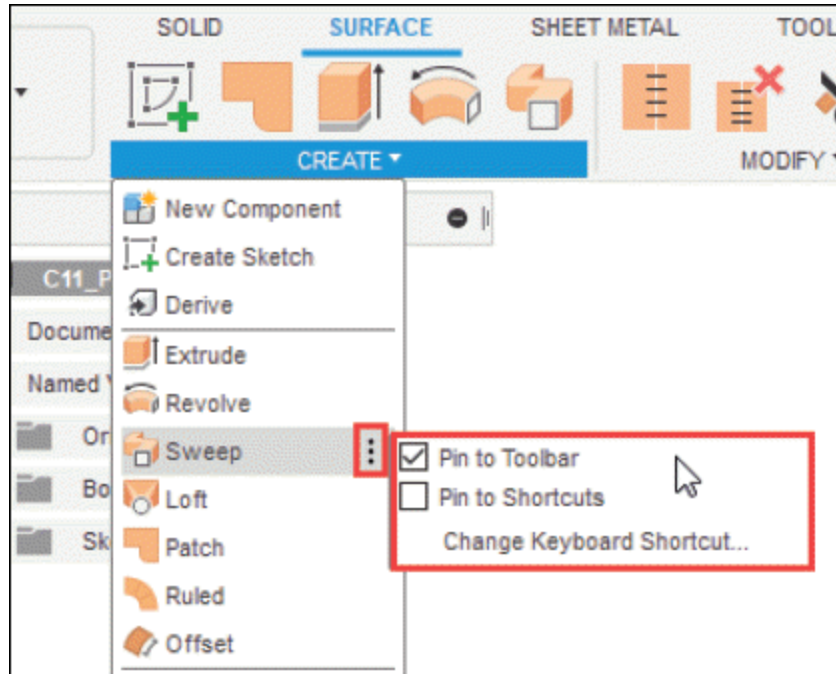
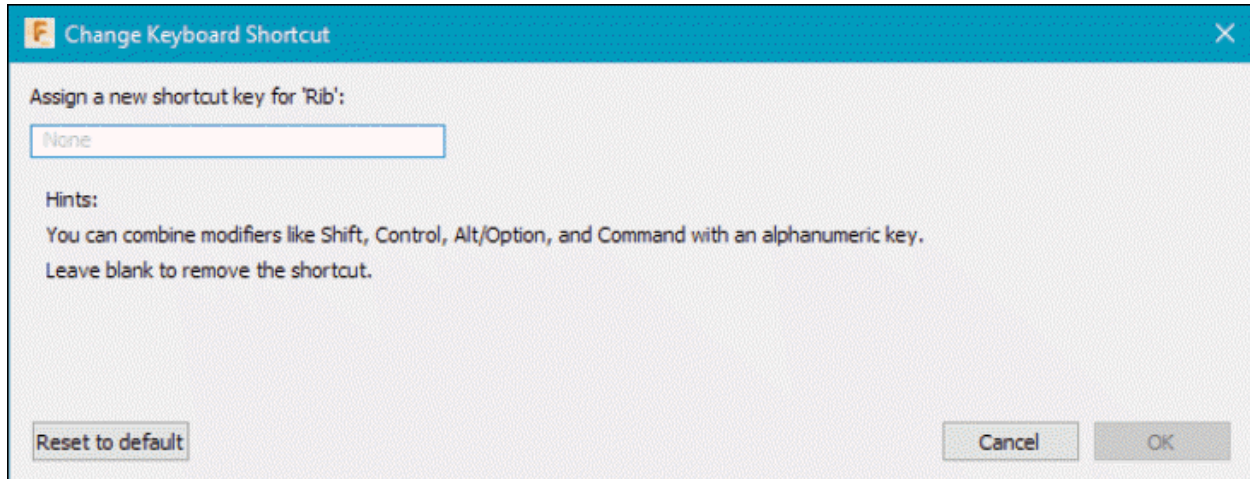

Figure-124. Shortcut menu for tool customization
Figure-125. Change Keyboard Shortcut dialog box
- Click on the **Three dot** button next to tool to be added in the panel from the drop-down of **Toolbar**. The shortcut menu to customize toolbar will be displayed; refer to Figure-124.
- Click on the **Change Keyboard Shortcut** option from the shortcut menu as shown in Figure-124. The **Change Keyboard Shortcut** dialog box will be displayed; refer to Figure-125.